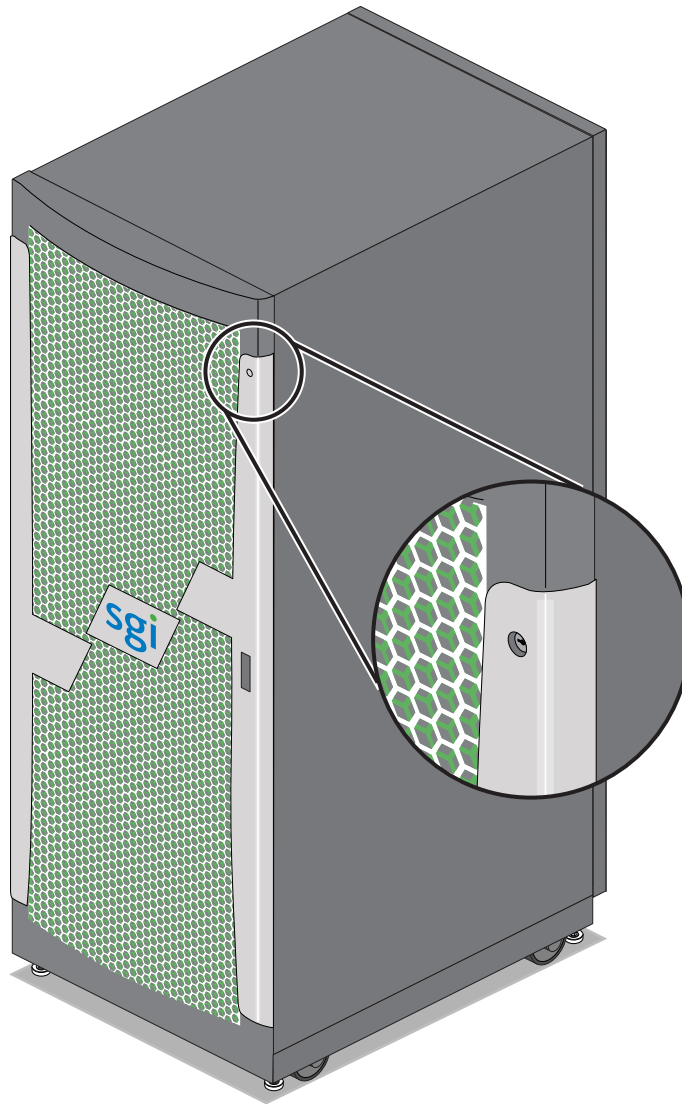

Figure 4-2 Front Lock on Tall (42U) D-Rack
- **Front and rear door.** The front door is opened by grasping the outer end of the rectangular-shaped door piece and pulling outward. It uses a key lock for security purposes that should open all the front doors in a multi-rack system (see Figure 4-2 on page 52). A front door is required on every rack.